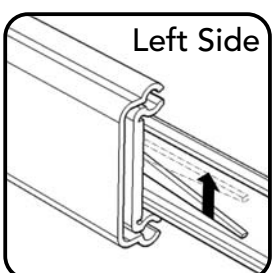

Figure 2
Note: To remove Drawer (H) in future, push plastic lever on left side up, push plastic lever on right side down and pull open. (See Figures 2 and 3)